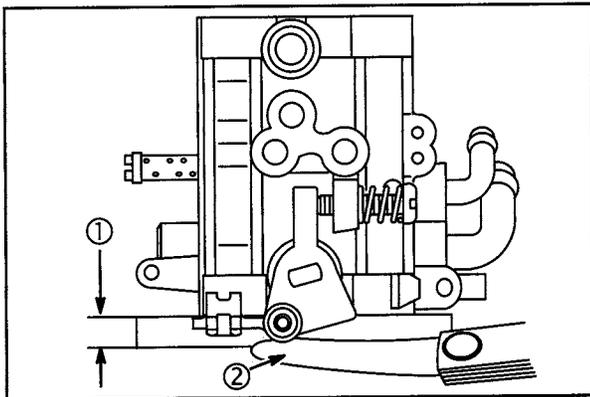

Fig. 58
1. Lay carburetor on 1/4" (6.35 mm) raised flat surface (1). Check throttle and choke shaft clearance with a feeler gauge (2) as shown in **Fig. 58**.